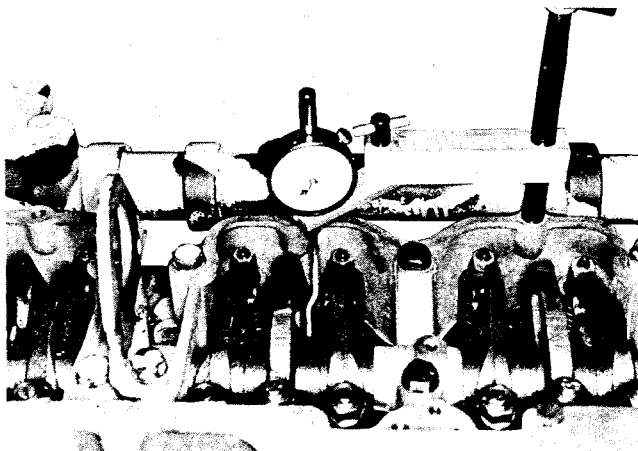

Fig. 2-43, (N114231). Dial indicator in place — extension in contact with plunger — N-855
2. Set up ST-1170 Indicator Support with indicator extension on injector plunger top at No. 3 cylinder, Fig. 2-43. Make sure indicator extension is secure in